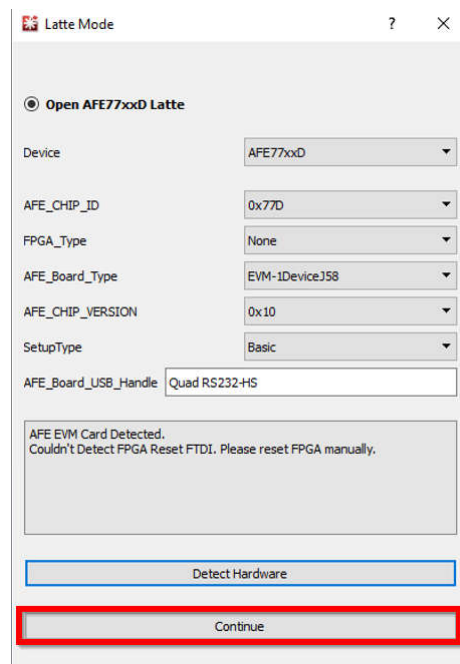

Figure 3-3. Launching AFE77xxD Latte Software
1. Open the AFE77xxD Latte GUI version 1.4. Make sure the interface looks like Figure 3-3, then click Continue. The message “Couldn’t Detect FPGA Reset FTDI. Please reset FPGA manually” is expected and can be ignored.